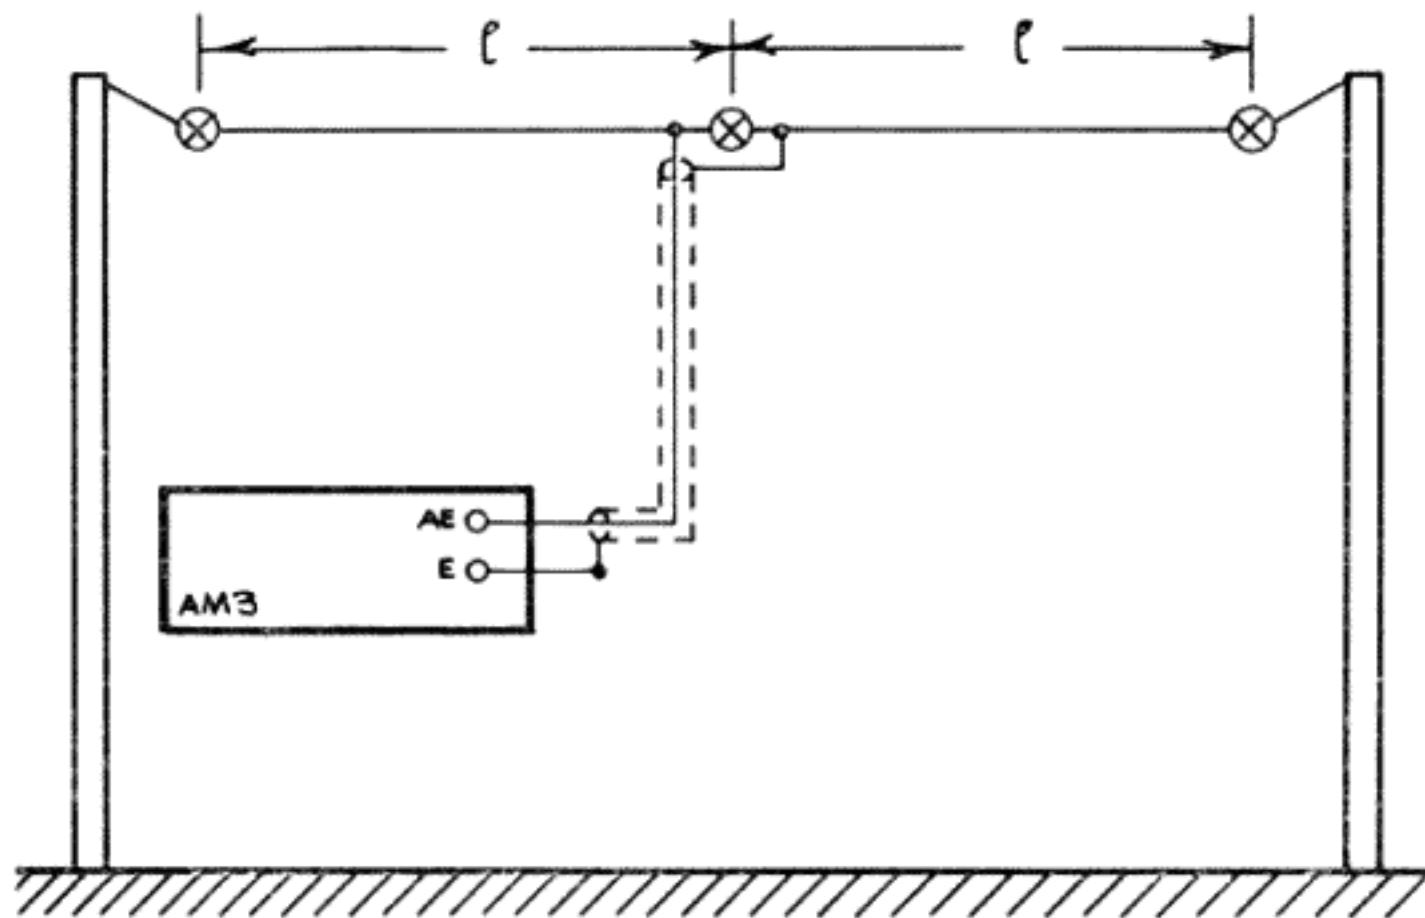
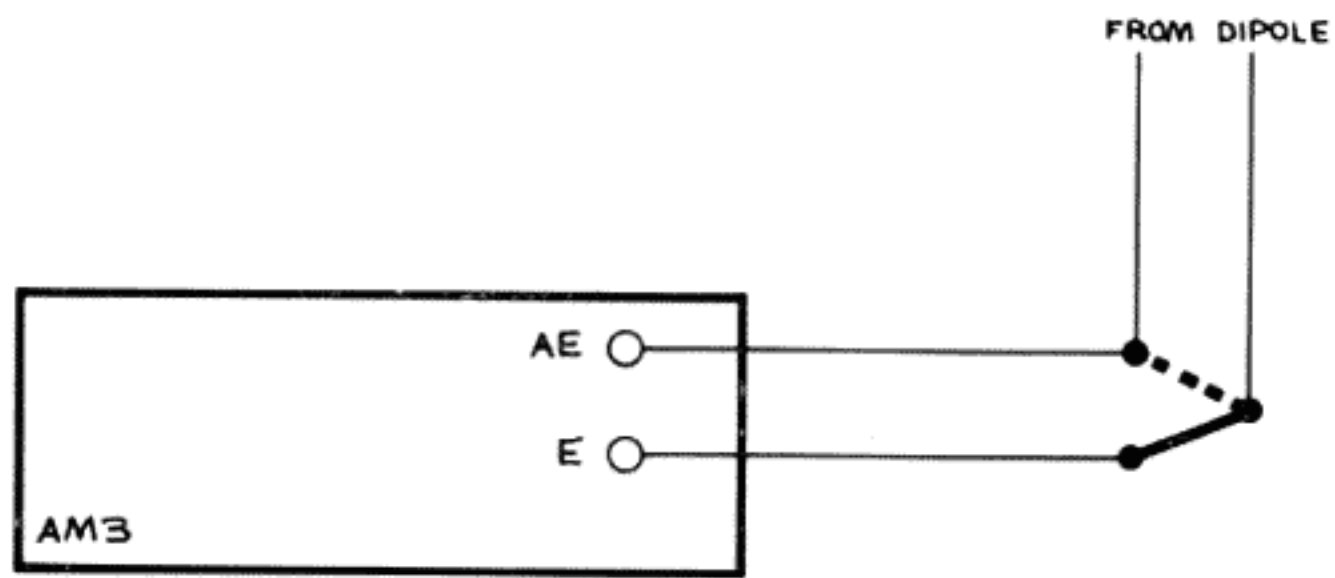

Fig. 6 Dipole aerial. A twin-wire feeder could be used instead of the co-axial cable shown
Fig. 7 Switch to convert a dipole aerial to a T aerial
A horizontal dipole aerial (Fig. 6) is more efficient but only to signals from transmitters roughly broadside on to the line of the aerial. To signals arriving from the end-on directions it is less efficient, as also it is on wavebands other than that for which it was designed. These disadvantages may be offset without losing the dipole advantage when required, by arranging, by means of a switch or otherwise, to convert the dipole to the T aerial (Fig. 7).
*Typical dimensions of each half (l) of a dipole aerial (see fig. 6)*